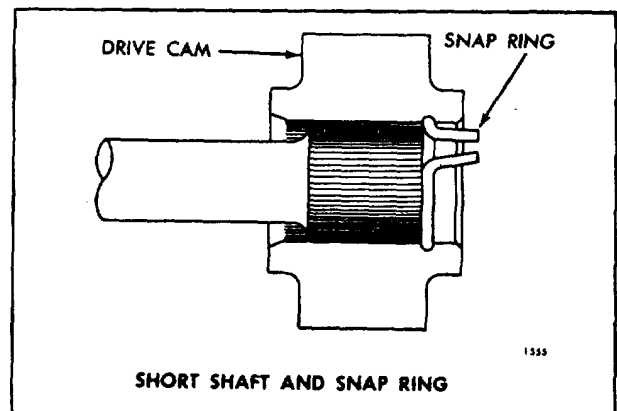

Fig. 4. Bower Drive Shaft Mounting
2. Refer to Fig. 4 and remove the snap ring and pull the blower drive shaft out of the drive assembly.